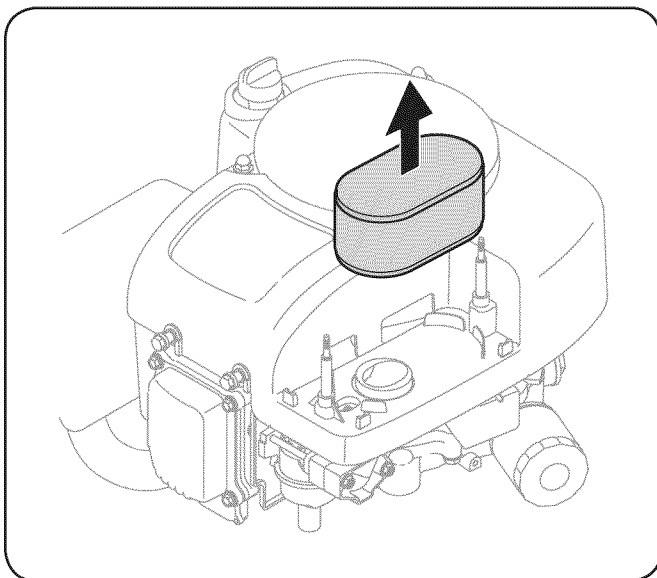

Figure 14
2. Remove the air filter. See Figure 14.